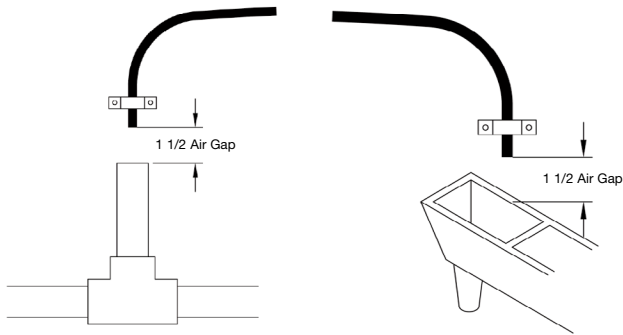

Figure 7: Also be sure drain line has an air gap.
2. If the drain line is a 5/8" outside diameter X 1/2" inside diameter flexible poly tube, slide the nut onto the poly tube, then place the poly tube insert into the end of the poly tube and tighten the nut on to the 3/4" drain line fitting. The nut is only designed for use with flexible poly tube. Use other nuts if attaching different materials. Run line to a drain. Making sure you have a 1 1/2" airgap. You may use a floor drain, standpipe or any open type drain (see Fig. 7 on page 11).